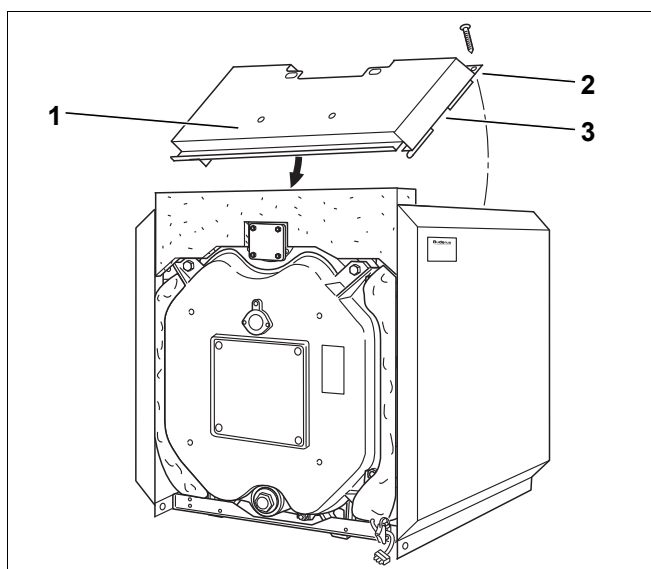

Fig. 36 Installation of the front hood
- Position the top at the front (Fig. 36, [1]) between the side walls so that the cut-out engages (Fig. 36, [3]) above the cross support bracket.
- Secure the top with one self-tapping screw on each (Fig. 36, [2]) of the side walls.